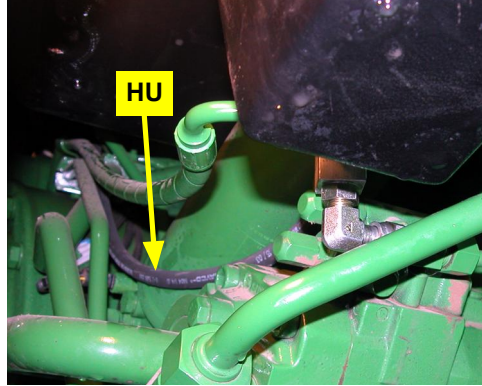

Figure 8b: Routing LS hose from steering block to load sense shuttle
- c. Route the load sense hose **HU** down to the open connection on the load sense shuttle (**HP** or **HQ**). Route the hose down the side of the tractor and secure it to other rigid plumbing. Make sure all hoses are routed properly and free from entanglement (Figure 8b).